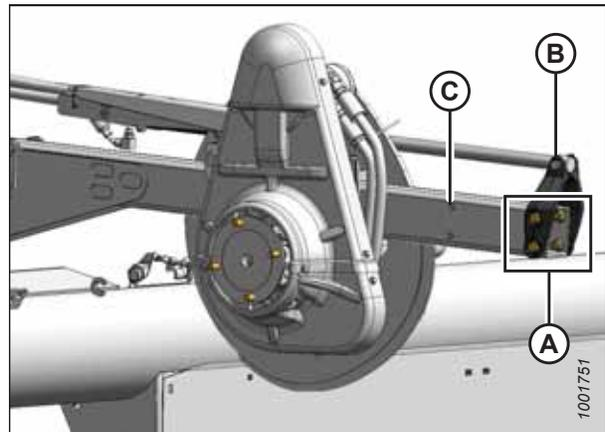

Figure 3.38: Forward Position
3. Remove four bolts (A) securing cylinder bracket (B) to the reel arm.
4. Position reel until bracket (B) lines up with desired position holes (C):
- Forward position, refer to Figure 3.38, page 64